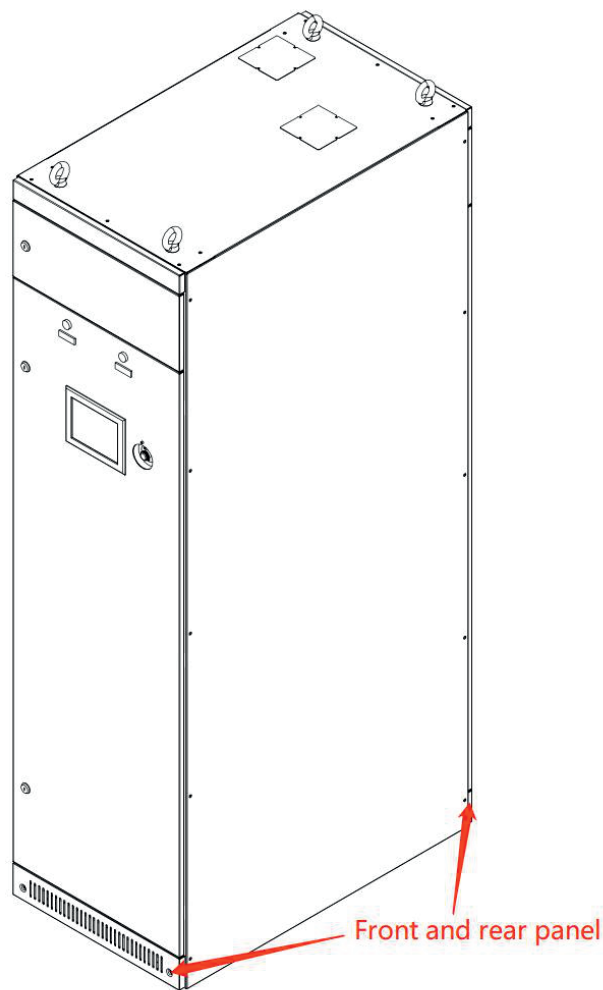

Figure 7-2 Front and rear panel of Sinexcel SVG system
**Note: when moving the cabinet from the bottom of its front, disassemble the front and rear panel at the bottom. Figure 7-2 shows what it is like after disassemble; when the cabinet is moved to the designated position, reattach the front and rear panel.**